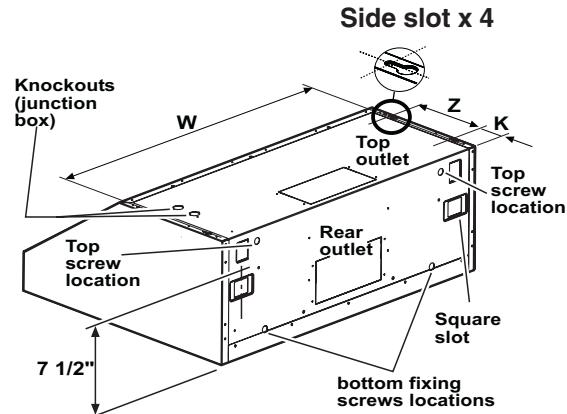

Figure 6a
4. After the hood installation height has been determined draw a horizontal line at a distance above the cooktop equal to the desired hood installation height plus **7-1/2"**. See also Figure 6a.